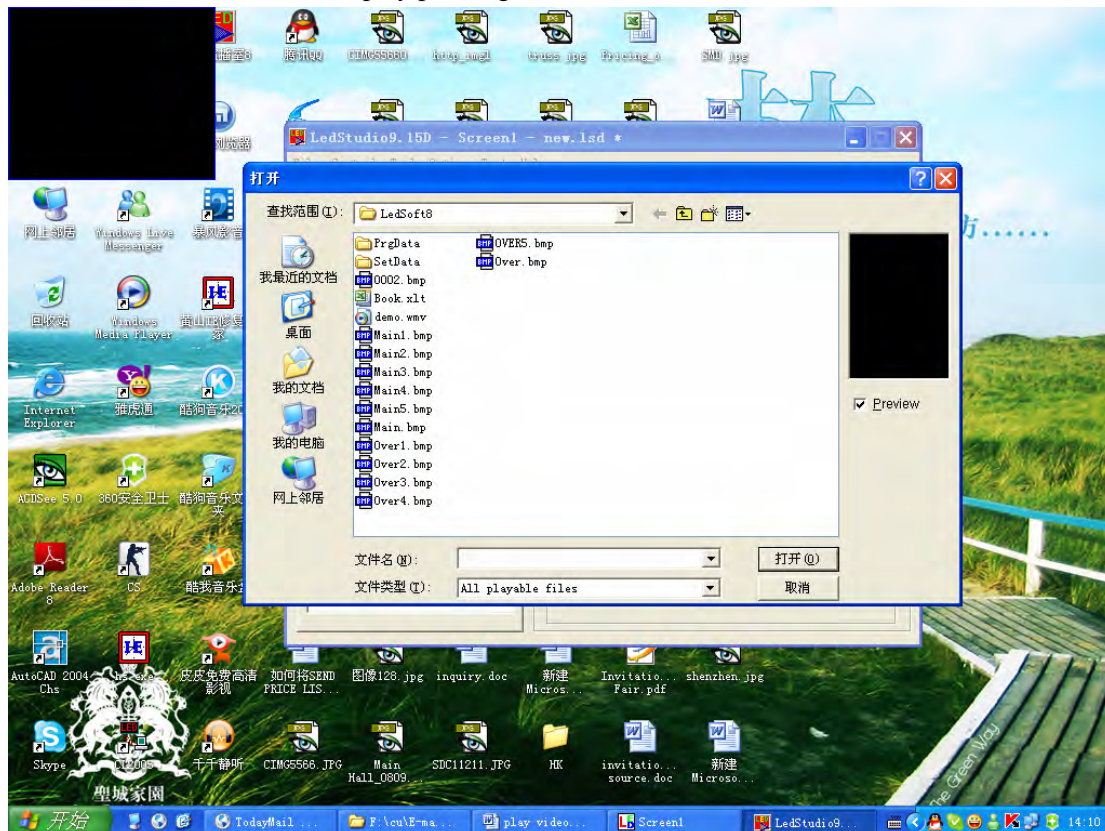

Figure 7
7. click on the one besides display path, figure 7 shows